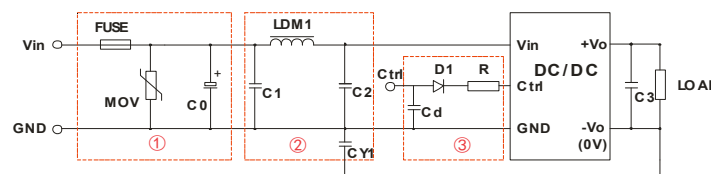

Fig. 3
RE	CISPR22/EN55022 CLASS B (see Fig. 3-② for recommended circuit)
EFT	IEC/EN61000-4-4 $\pm 2\text{KV}$ (see Fig. 3-① for recommended circuit) perf. Criteria B
Surge	IEC/EN61000-4-5 $\pm 2\text{KV}$ (see Fig. 3-① for recommended circuit) perf. Criteria B
- ① Part ① in Fig. 3 is used for EMS test while part ② is used for EMI filtering; and parts ① and ② may be selected based on needs.
- ② V_C is the voltage of the Ctrl end relative to the GND of the input grounding; V_D is the positive-going conduction pressure drop of D1; I_C is the current flows into the Ctrl end and its value is generally 5-10mA, see Fig. 3-③ for the peripheral circuit of Ctrl end;
- ③ If there is no recommended parameters, no external component is required.